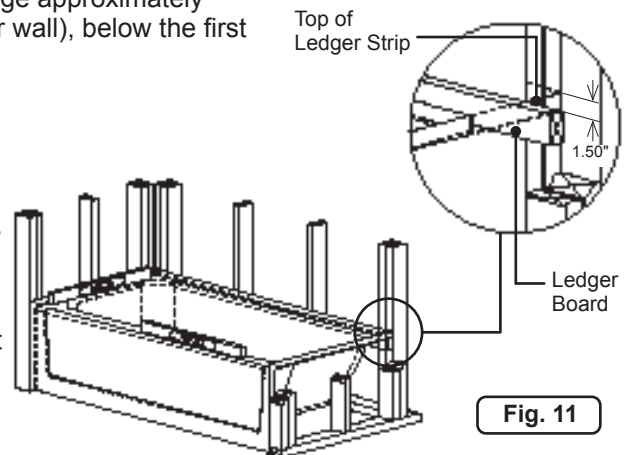

Fig. 11
3. After leveling tub, mark each stud (concrete or block wall) immediately above the back horizontal flange. Remove tub from alcove. Measure the distance between the top of the back horizontal flange and the bottom of the tub ledge approximately 1 1/2" (40 mm). Carefully mark this dimension on the back studs (or wall), below the first mark (Figure 11 - inset).
4. Install a Ledger Strip: Jacuzzi mandates the use of supports under the rear ledges of bathtubs to prevent shifting. Use horizontal ledger strip along the entire rear ledge or "I", "T" supports in at least two places in vertical position. Nail a 1" x 3" (25 mm x 75 mm) ledger strip immediately below the lower marks made on framing (Figure 11 - inset).